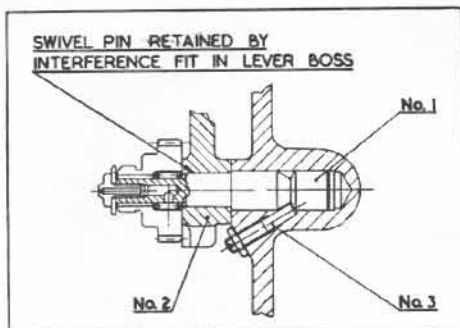

Fig. 38
Reference to Fig. 38 will show that the tumbler reverse assembly is supported on the headstock by a long swivel pin (1) which is a press fit in the tumbler reverse lever (2). The assembly is retained in position by the thrust screw (3) which draws the tumbler reverse lever back against the pivot boss facing on the headstock.